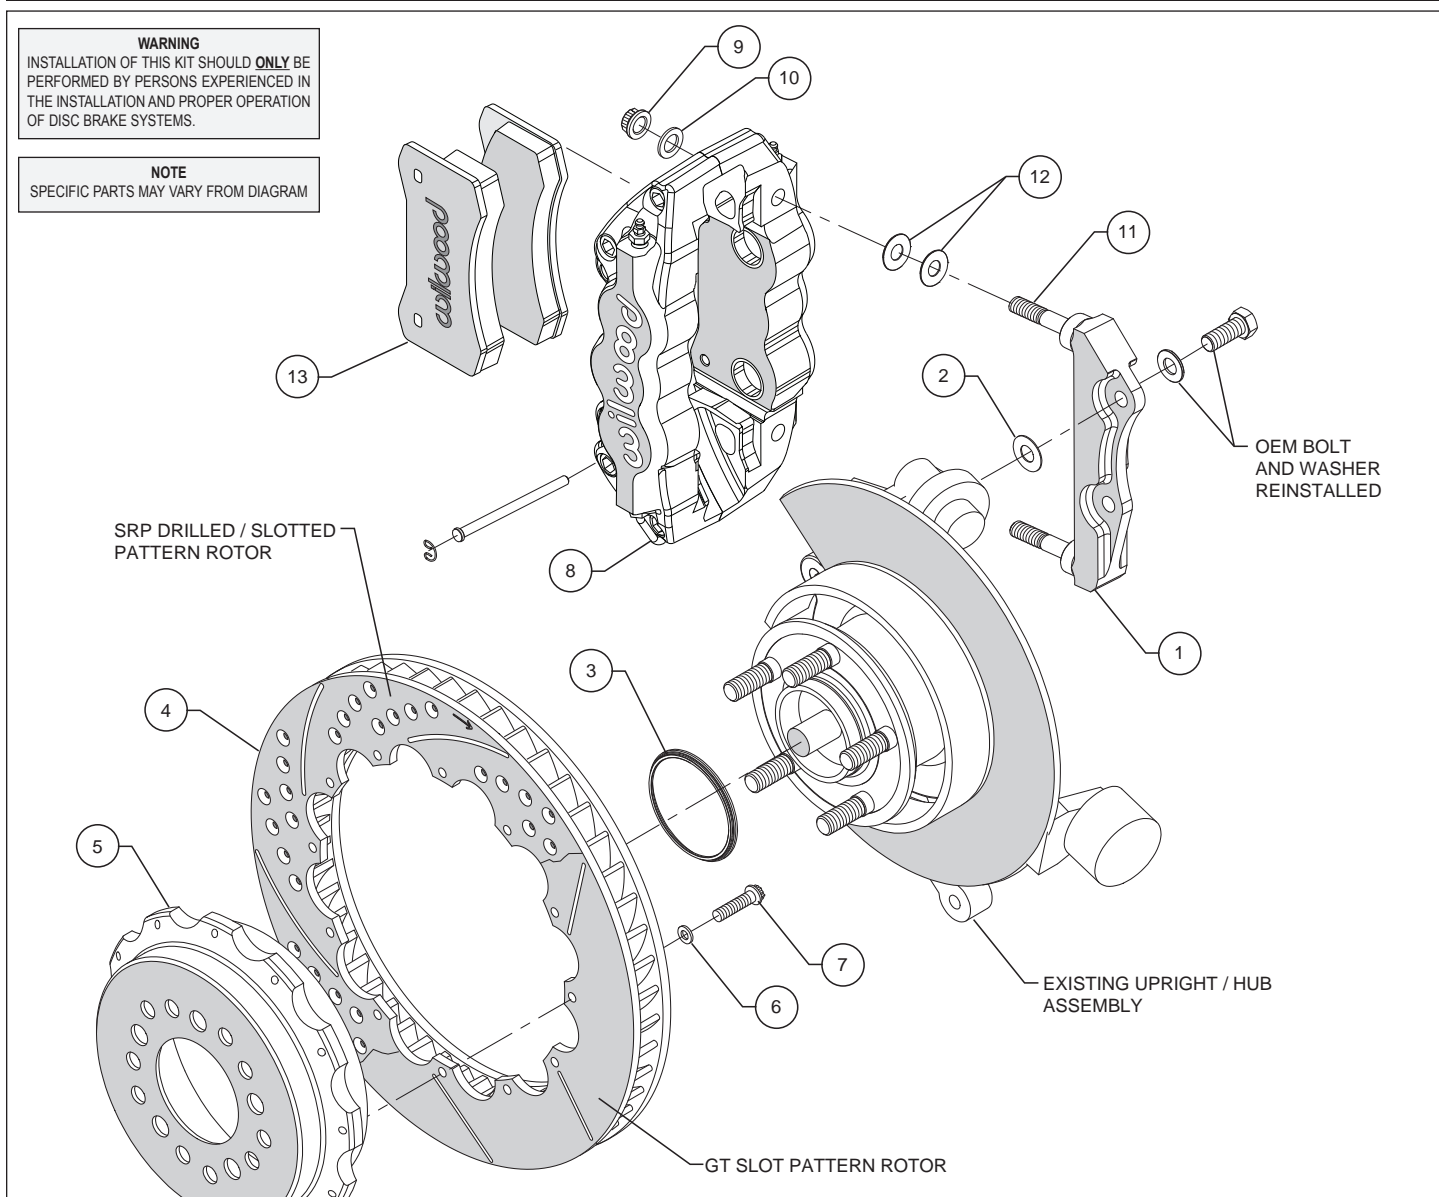
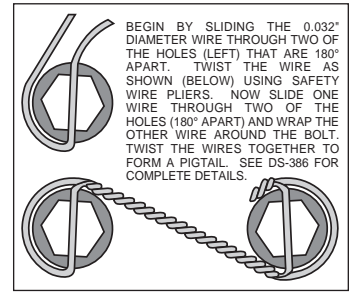

Figure 1. Typical Installation Configuration
Figure 3. Safety Wire Diagram
Assembly Instructions (numbers in parenthesis refer to the parts list and Figure 1 on the preceding pages):
- The caliper mount bracket (1) should initially be installed with clean, dry threads on the mounting bolts. Orient the bracket as shown in Figure 1 and install using the saved OEM caliper mount bolts and washers. Initially place one .033" thick shim (2) on each bolt between the bracket and upright, Figure 1. Temporarily tighten the mounting bolts. **NOTE: The bracket must fit squarely against the mount bosses on the upright.** Inspect for interference from casting irregularities, machining ridges, burrs, etc. Later, after the caliper alignment has been checked, the mount bolts will be secured using red *Loctite*® 271.
- Orient the rotor (4) and the hat (5) as shown in Figure 1 and Photo 1. Attach rotor to hat using bolts (7) and washers (6). Using an alternating sequence, apply red *Loctite*® 271 to the threads, and torque to 140 in-lbs. Safety wire bolts using standard 0.032 inch diameter stainless steel safety wire as shown in Figure 3. Please refer to Wilwood's data sheet DS-386 (available at www.wilwood.com/Pdf/DataSheets/ds386.pdf) for complete safety wire installation instructions.
- Slide the rotor registration adapter (3) onto the axle register on the axle hub with the smaller O.D. facing outward, Photo 2. Slide the hat/rotor assembly onto the axle hub. **NOTE: The hat must fit flush against the axle hub flange or excessive rotor run out may result.** Install three lug nuts (finger tight) to keep the hat/rotor assembly in place while continuing with the installation.
- Lubricate the caliper mounting studs (11) with lightweight oil. Initially place two .030" thick shims (12) on each stud between the caliper and the bracket, as shown in Figure 1 and Photo 3. With the bleed screws pointing up, mount the caliper (8) onto the bracket (1) using lock nuts (9) and washers (10), Figure 1 and Photo 4. Temporarily tighten the lock nuts and view the rotor through the top opening of the caliper. The rotor should be centered in the caliper, Photo 5. If not, adjust by adding or subtracting shims (2) between the bracket and the upright. Always use the same amount of shims on each of the two mounting bolts. Once the caliper alignment is correct, remove the bracket mounting bolts one at a time, apply red *Loctite*® 271 to the threads, and torque to 65 ft-lb.